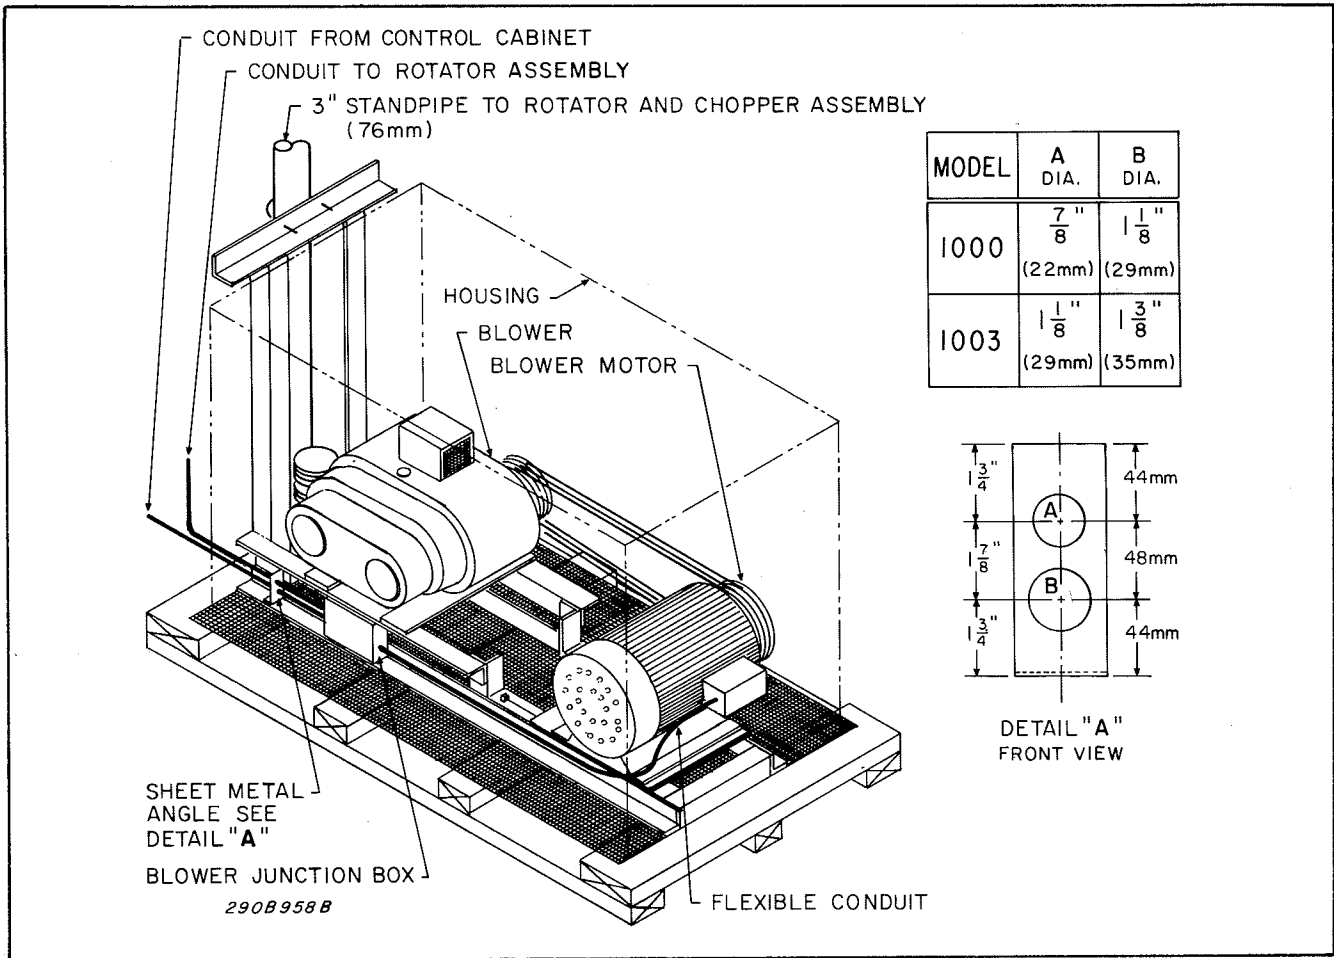

Figure 3-20. Conduit Installation.
2. Punch or drill a 7/8" (22mm) hole and a 1-1/8" (29 mm) hole in the sheet metal angle as shown in detail "A" in figure 3-20.
3. Install 3/4" (19mm) conduit between the Blower Junction Box (see figure 3-20) and the Rotator Assembly conduit fitting. Pass the conduit through the 7/8" (22 mm) hole in the sheet metal angle as indicated in figure 3-20.
4. Install 1" (25mm) conduit between the control cabinet and the blower junction box. Pass the conduit through the 1-1/8" (29mm) hole in the sheet metal angle, as indicated in figure 3-20.
2. Drill or punch a 1-1/8" (29 mm) hole and a 1-3/8" (35mm) hole in the sheet metal angle. The location of the sheet metal angle is shown in figure 3-20. Drill or punch the holes as indicated in Detail "A" of figure 3-20.
3. Install 1" (25 mm) conduit between the blower junction box (see figure 3-20) and the conduit fitting on the Rotator and Chopper Assembly. Pass the 1" conduit through the 1-1/8" (29mm) hole in the sheet metal angle, as shown in figure 3-20.